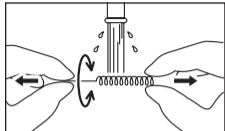

Fig. 23
- 2) After using the cleaning wire, clean the wire by pulling both ends of it with fingers while running water all around the wire for 15 seconds or more (Fig. 23).